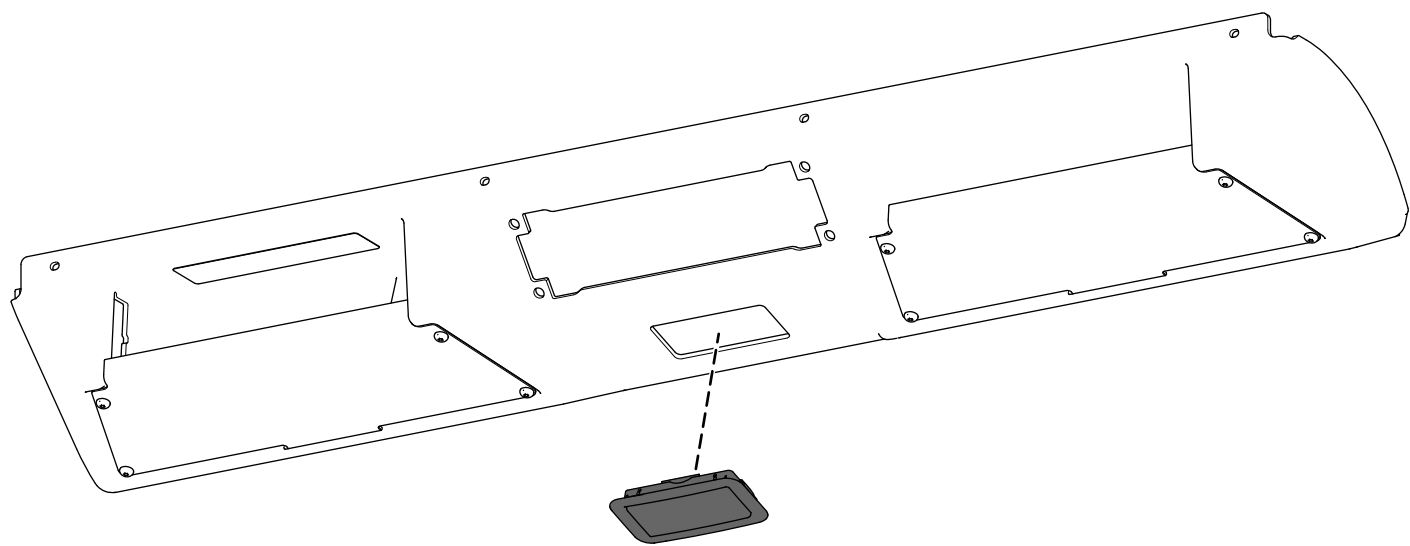

Figure 3
- 1. Install the dome light to the overhead console (Figure 3).